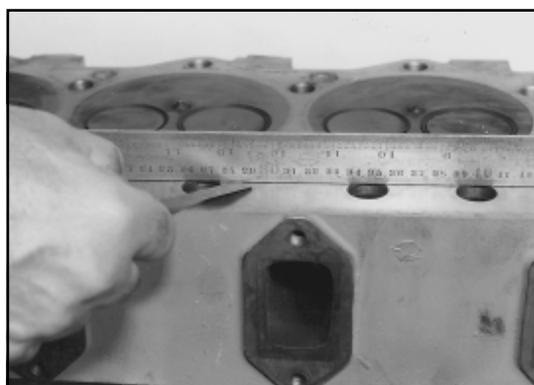

Fig. 9-18
- Clean the Cylinder Head with clean fuel oil. Check the head's polished surface for flatness. Fig. 9-18 (Refer to Inspection & Servicing Procedure No.11-12)